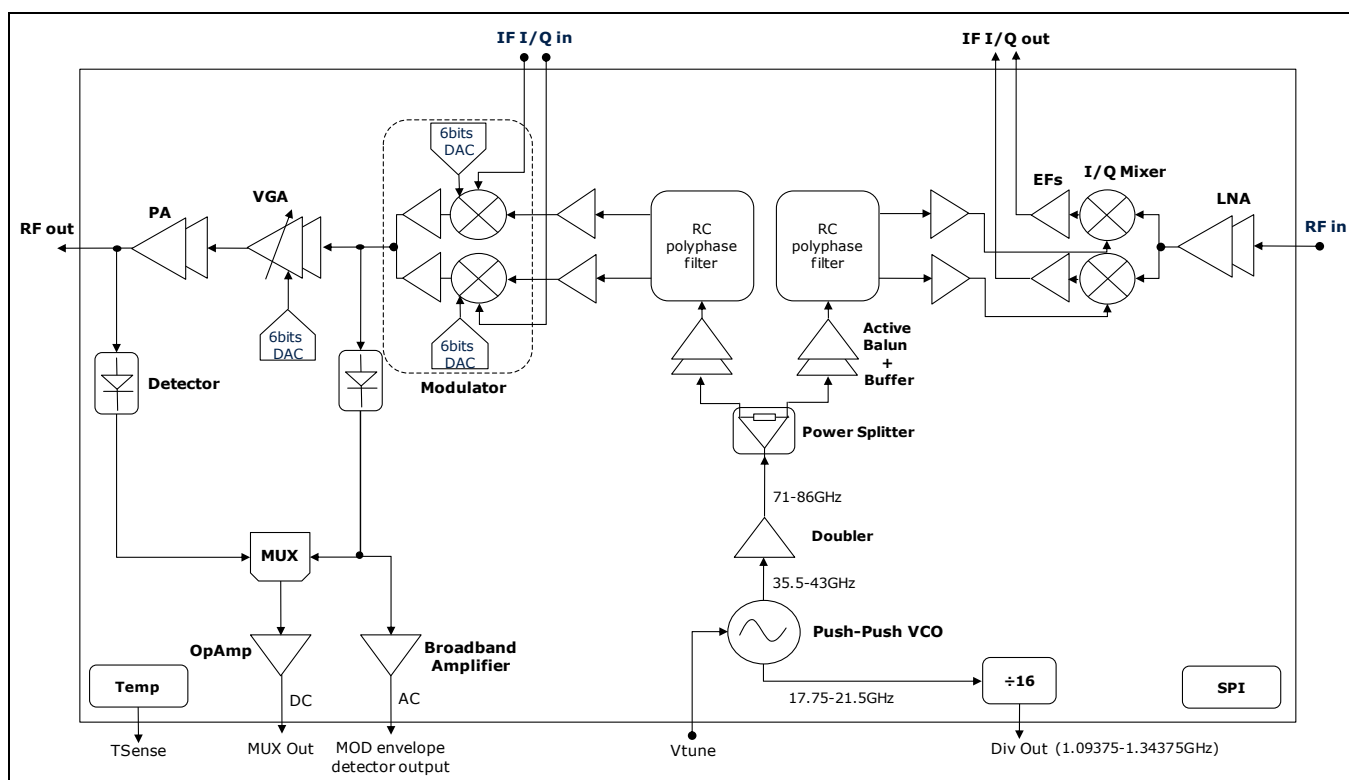

Figure 1 Block Diagram of BGT70 Transceiver Chipset
Figure 1 shows the functional block diagram of Infineon’s BGT70 E-band transceiver IC. The BGT70 transceiver chipset provides a highly integrated solution featuring several RF building blocks namely, a Voltage Controlled Oscillator (VCO), a frequency divider ($/16$), an I/Q modulator, a Programmable Variable Gain Amplifier (VGA), a Power Amplifier (PA), a Low Noise Amplifier (LNA), an I/Q demodulator, and integrated envelope and power detectors with temperature sensors all controlled by an industry standard SPI interface on a single chip housed in a compact, plastic eWLB package (6 mm x 6 mm). The whole IC is up to 1kV ESD protected according to Human-Body-Model (HBM). Following is a short description of each building block.